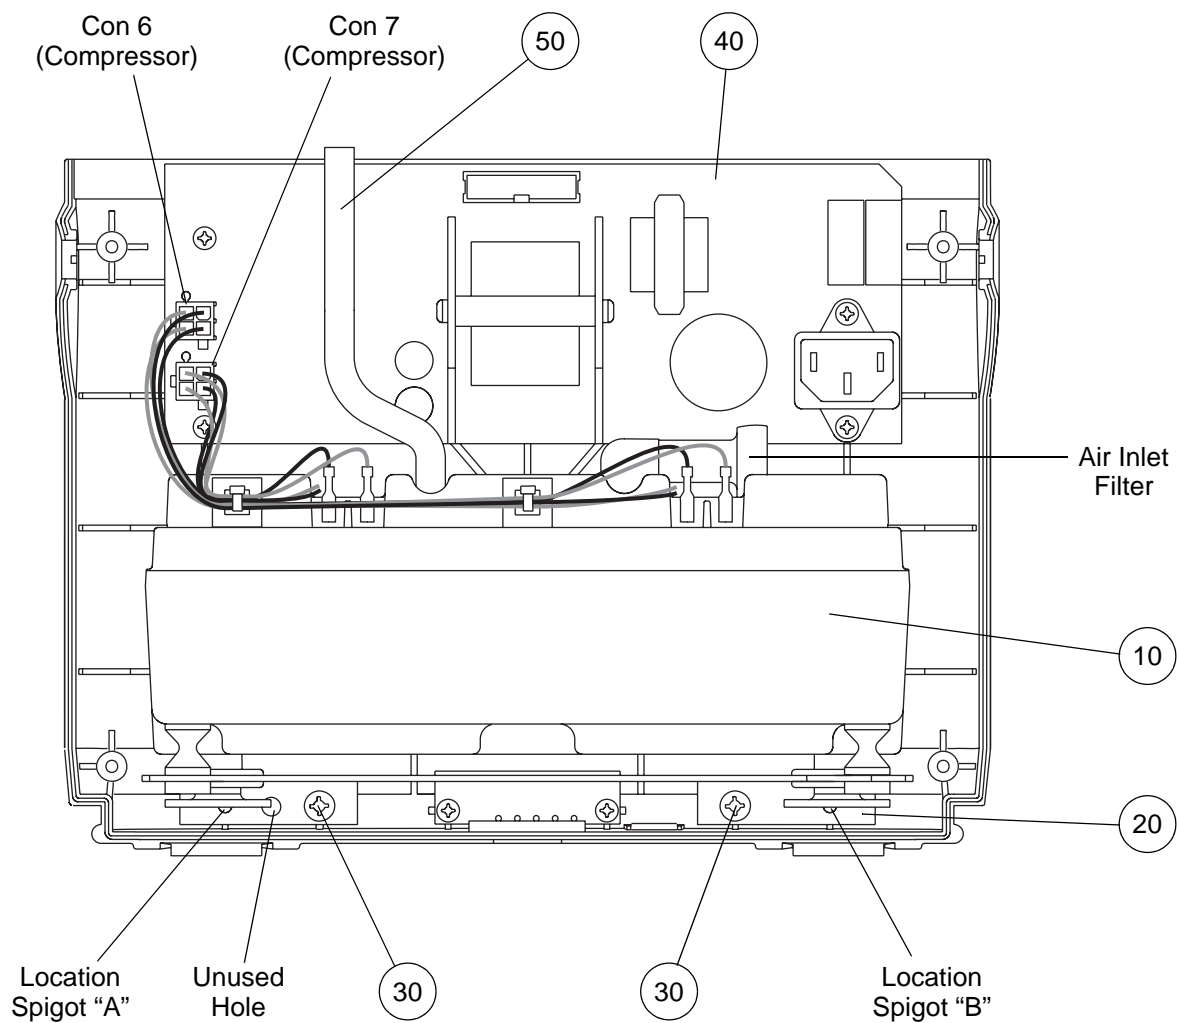
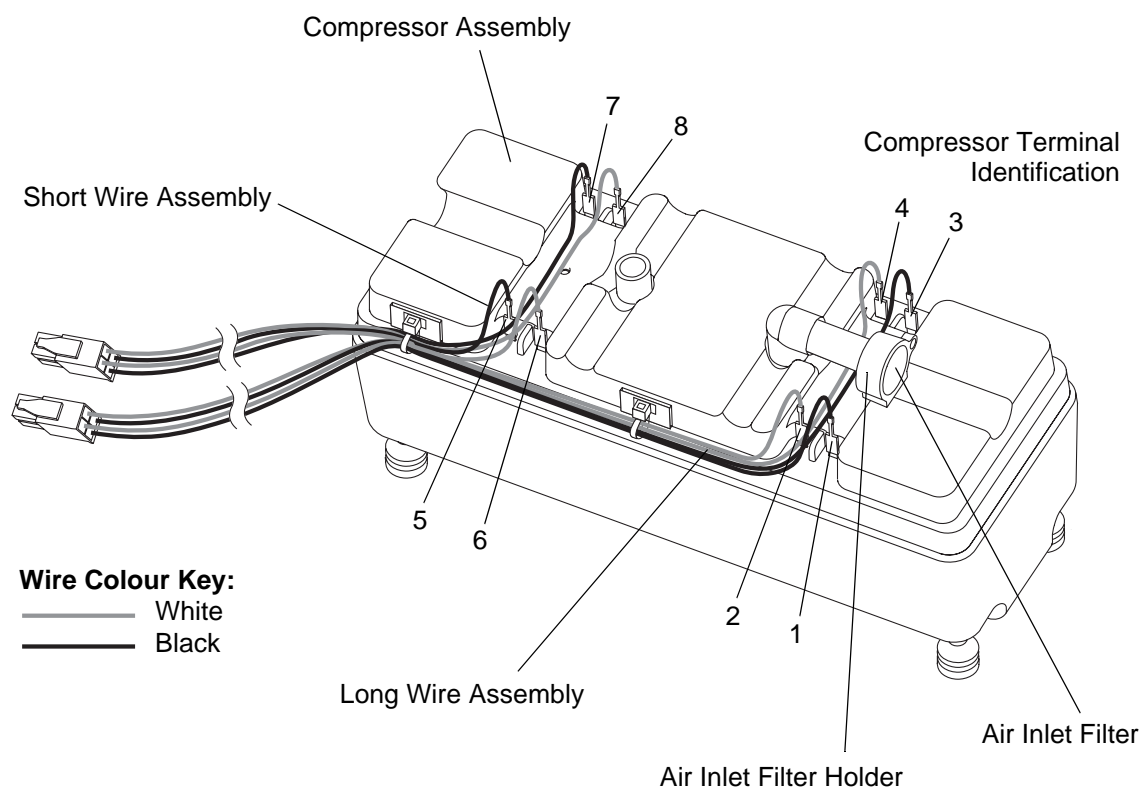

Figure 58 - Replacing the Compressor Assembly and Compressor Filter
Figure 61 - Compressor Assembly
- 36.3 Disconnect the large diameter tube (Fig 58, Item 50) from the compressor assembly.
- 36.4 Disconnect the two compressor cable connectors (Fig 58, PCB Con 6 and 7) from the power supply PCB assembly (Fig 58, Item 40).
- 36.5 Remove the two screws (Fig 58, Item 30), and lift the compressor assembly and mounting bracket (Fig 58, Items 10 and 20) out of the front case.
- 37.1 Before installing the compressor assembly and mounting bracket (Fig 58, Items 10 and 20), check the following parts are installed correctly on it (Refer to Figure 61):
- 37.1.2 The eight push-on cable connectors, from the power supply PCB assembly (Fig 58, PCB Con 6 and 7).
- Note:** Make sure the two locating holes at the outer ends of the mounting bracket are installed over the corresponding location spigots "A" and "B" in the front case (Refer to Figure 58).
- 37.3 Install the two screws (Fig 58, Item 30) through the mounting bracket (Fig 58, Item 20) and into the front case.
- Note:** One hole in the left side of the mounting bracket is not used (Refer to Figure 58).
- 37.4 Connect the large diameter tube (Fig 58, Item 50) onto the compressor assembly.
- 37.5 Connect the two compressor cable connectors (Fig 58, PCB Con 6 and 7) onto the power supply PCB assembly (Fig 58, Item 40).
- 39.7 Check that the two wire assemblies (long and short) are correctly connected to the compressor assembly. Refer to Figure 61 for the correct wire colours and compressor terminal connections.